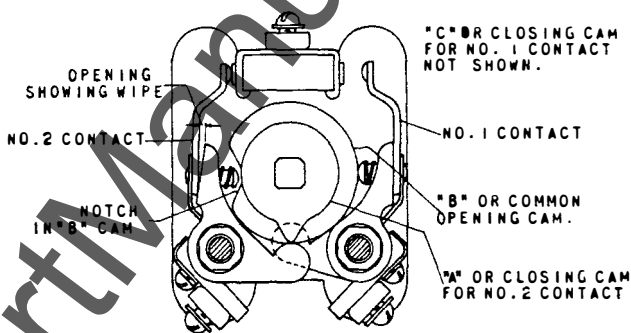

Fig. 6 Typical Section Showing Operation of Cams - Front View
When the total rotation of the switch is more than 150 degrees, there is, due to the common opening cam (B), a certain limitation to the opening and closing of the contacts (see Fig. 6). If the No. 2 contact is closed at zero degree, then after the shaft has been rotated 180 degrees, the notch in the cam (B), which allows the contact to close, will be opposite the No. 1 contact and there will be nothing to hold the No. 1 contact open. Therefore, the No. 1 contact must be closed at this point or it must be omitted from the switch. In other words, whatever happens to one contact at any point in the pe-